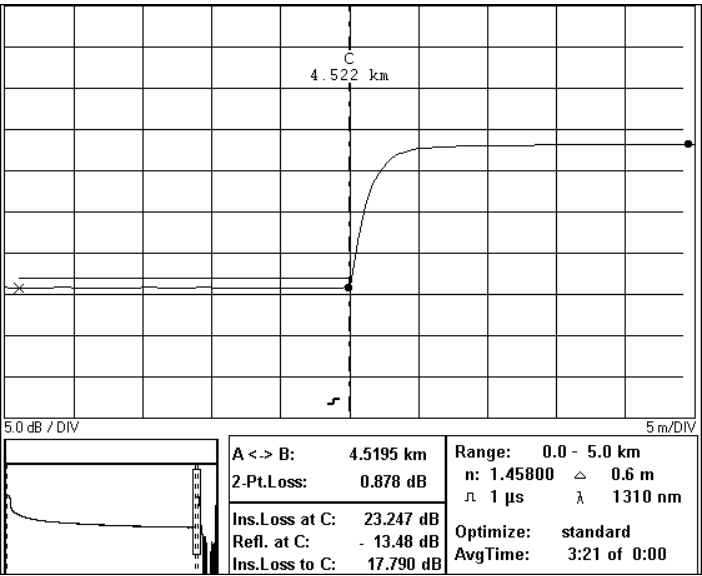

Figure D-18
- 18** Position the X as far as possible to the left of the rising edge, but so that it is still displayed on the screen. See Figure D-18.
See Figure D-18.
20 Position the X as far as possible after the rising edge, but ensure, that it is before the falling edge and that it is still displayed on the screen. See Figure D-18.